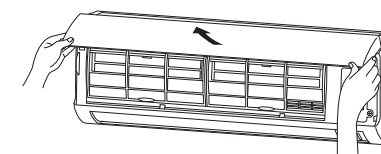

Fig. 3-44
- Allow the edge of the air intake grille to slide into the top of the indoor unit, and then insert it all the way inside. (Fig. 3-44)